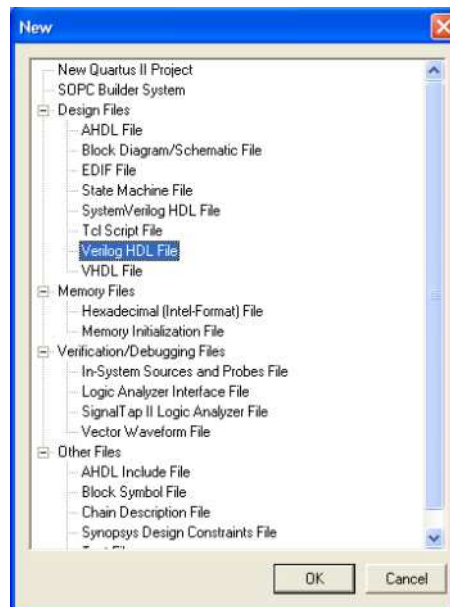

Figure 13: Choose to prepare a Verilog file.
1. Select File > New to get the window in Figure 13, choose Verilog HDL File, and click OK. This opens the Text Editor window.